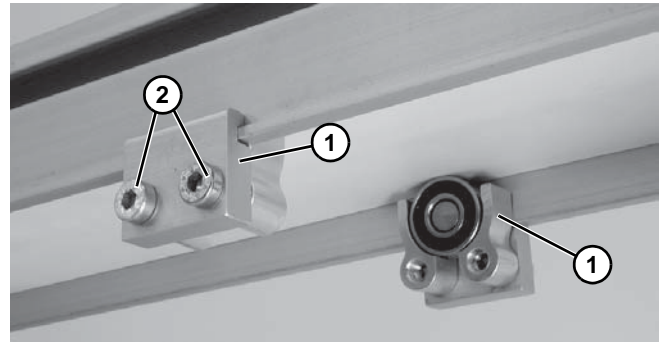

Figure 14
3. Install roller assemblies (Figure 14, item 1) as shown. Tighten screws (Figure 14, item 2) to 7 Nm.